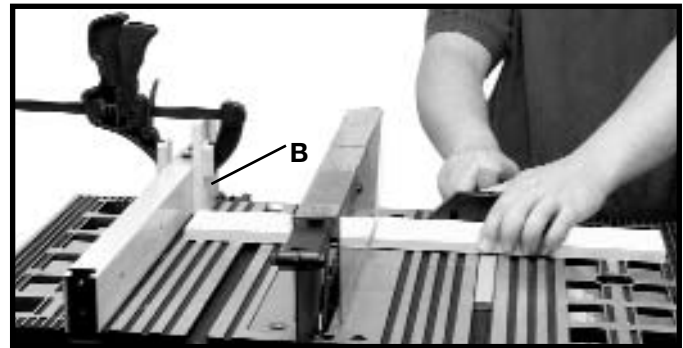

Fig. 39B
When cross-cutting a number of pieces to the same length, a block of wood (B) Fig. 39B can be clamped to the fence and used as a cut-off gage as shown in Fig. 39B. It is important that this block of wood always be positioned in front of the saw blade as shown. Once the cut-off length is determined, secure the fence and use the miter gage to feed the work into the cut. This block of wood allows the cut-off piece to move freely along the table surface without binding between the fence and the saw blade, thereby lessening the possibility of kickback and injury to the operator.
▲CAUTION WHEN USING THE BLOCK (B) FIG. 39B, AS A CUT-OFF GAGE, IT IS VERY IMPORTANT THAT THE REAR END OF THE BLOCK BE POSITIONED SO THE WORK PIECE IS CLEAR OF THE BLOCK BEFORE IT CONTACTS THE BLADE.